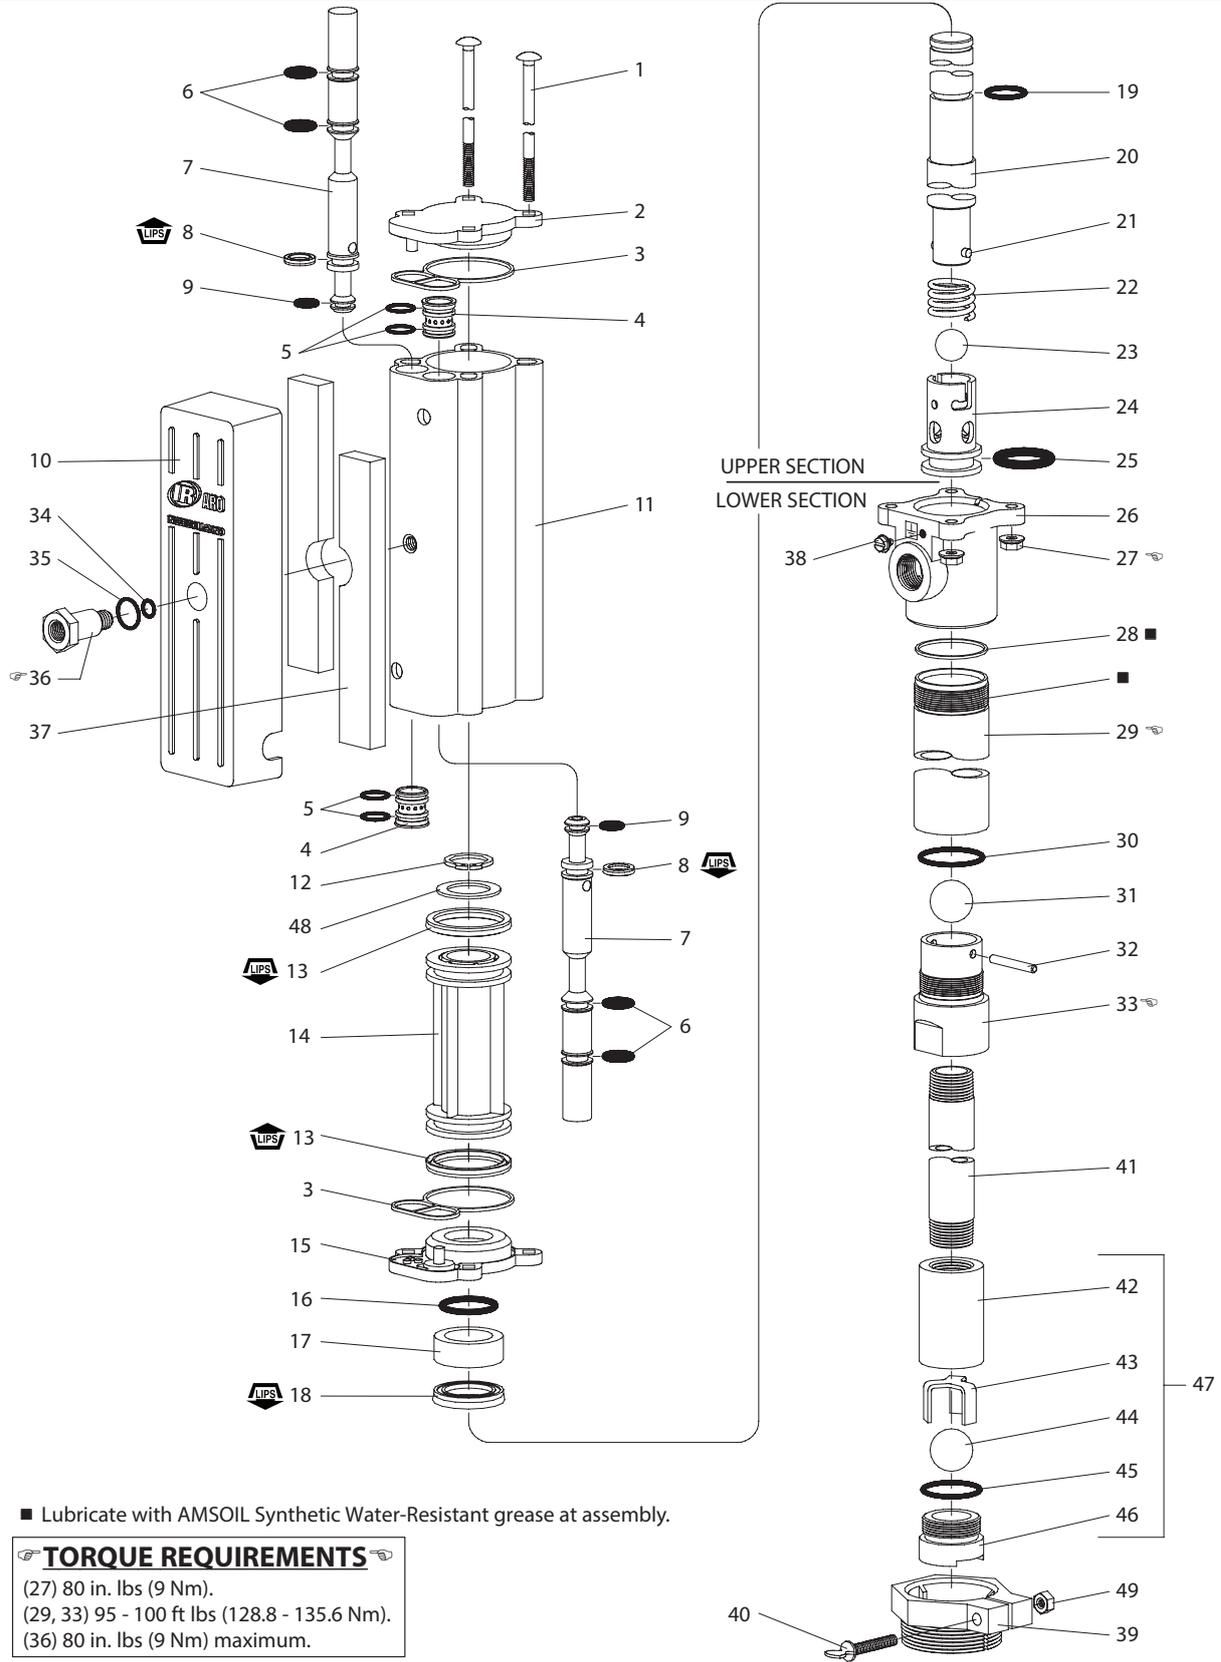

Figure 2
All threads are right hand. Refer to figure 2. These procedures are for the installation of repair kit parts. Disconnect air supply and relieve all system pressure prior to servicing. Carefully remove the parts, inspect parts for damage, nicks or excessive wear and determine if any parts will need replacement.
Note: Refer to the illustration (figure 2) for "U" cup lip seal direction.
1. Replace the seals on both the (7) spools and (4) sleeves.
2. Locate the valve chamber on the (11) cylinder where the 3/8" dia. hole is located and install one of the (4) sleeves. Insert the (7) spool from the opposite end. Next, install the remaining sleeve and spool.
3. Replace the (3) track gasket and install (2) cap.
4. Replace the (13) piston "U" cups (refer to figure 2 for proper orientation). Replace the (19) "O" ring and assemble (14) piston to (20) piston rod and retain with (48) washer and (12) retaining ring.
6. Replace the (3) track gasket and install the (15) cap. Install the (16) "O" ring onto the piston rod, replace (17) bushing and (18) packing.
7. Replace the (25) "O" ring and re-attach the (24) inner check.
8. Slide the pump assembly back into the (26) base / lower pump section. Press the sections together and align the air inlet and pump outlet as required and replace the four (1) bolts and (27) nuts (tighten to 80 in. lbs (9 Nm)).